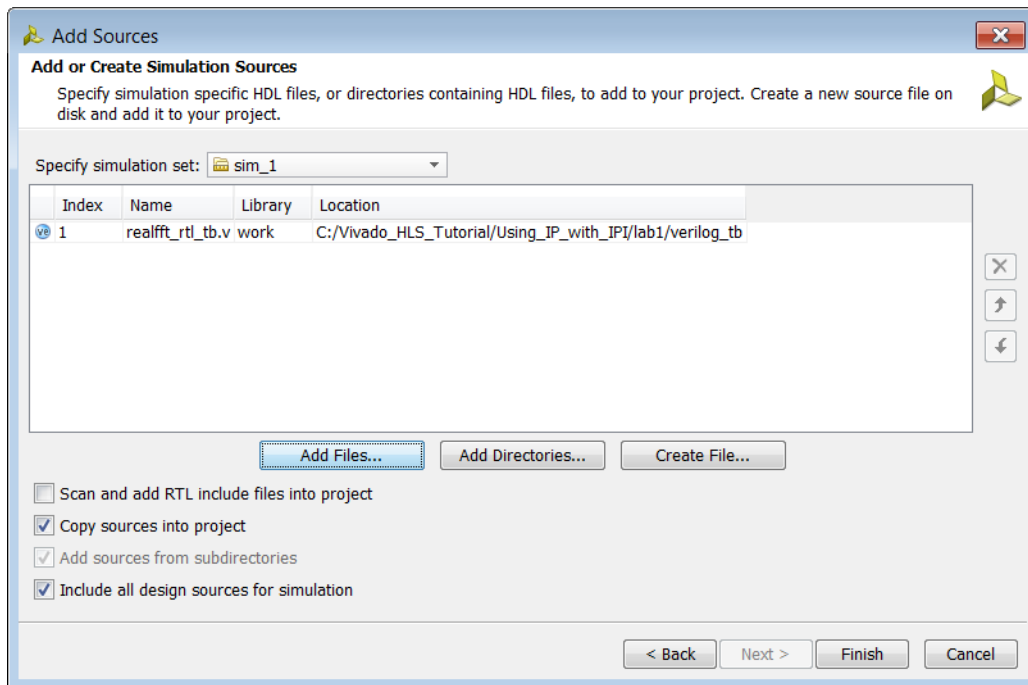

Figure 9-26: Copy Design Sources
8. Select the checkbox **Copy sources into the project** (Figure 9-26).